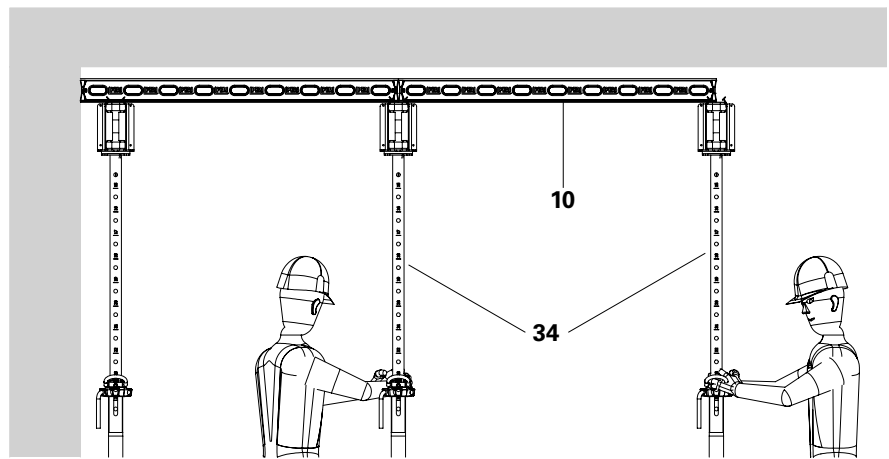

Fig. D6.23
2. Remove DUO couplers (21) before lowering the slab props.
3. Lower the slab props with crosshead (34) in the zone by approx. 5 - 6 cm. Use the DUO shuttering aid (37) to pull down "sticky" DUO DP panels (10). (Fig. D6.23)